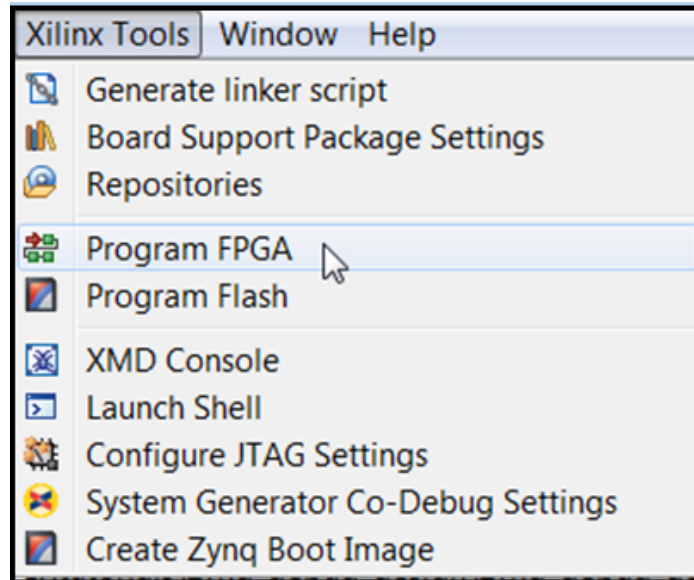

Figure 53: Program FPGA
- Next, download the bitstream into the FPGA by selecting **Xilinx Tools > Program FPGA** (Figure 53).